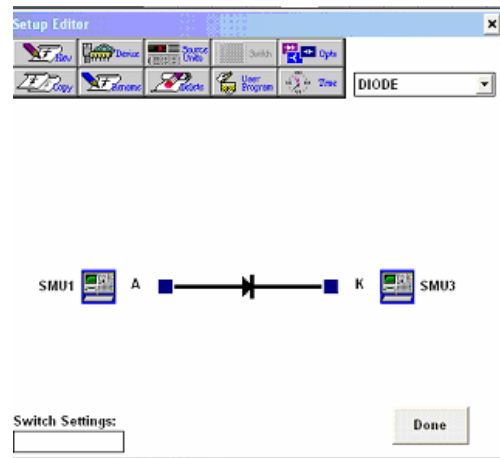

Figure 44: Setup Editor for diode
6. Probe configuration connection is shown in Figure 44